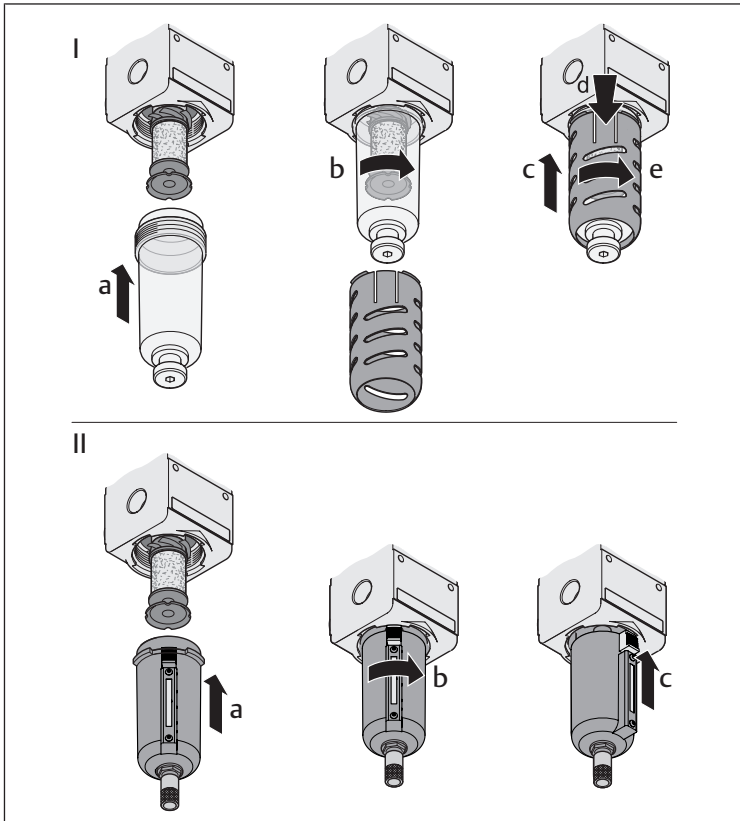
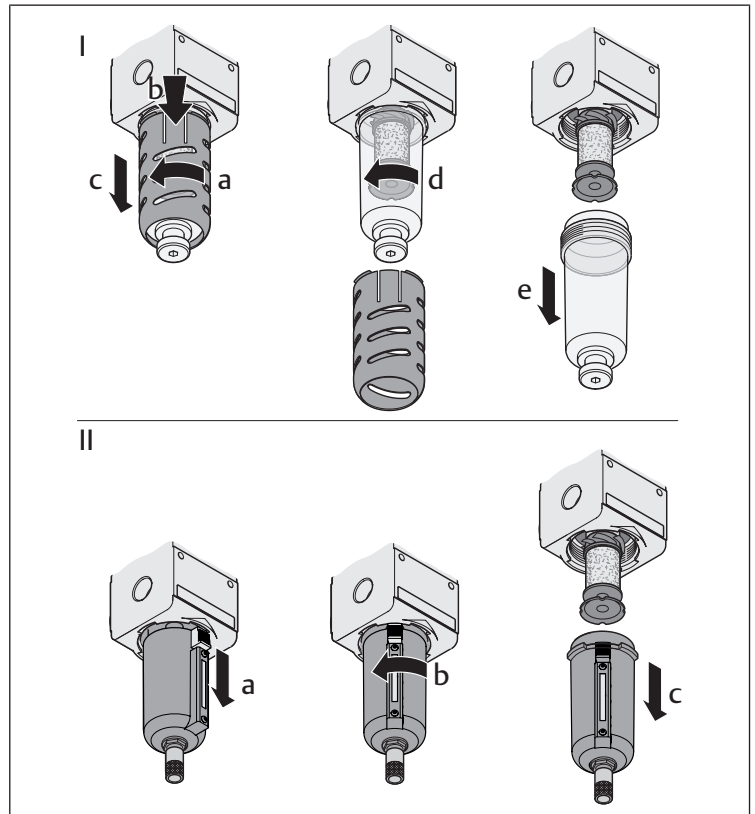

Fig. 2: Mount the reservoir and protective guard
Fig. 6: Disassemble the reservoir and protective guard
▶ Release the protective guard (→ Fig. 6 I a, – b), if present, and pull it off downwards (→ Fig. 6 I c).
▶ Unscrew the reservoir (→ Fig. 6 I d) from the housing.	Pull down the unlocking device (→ Fig. 6 II a), turn the reservoir (→ Fig. 6 II b) in an anti-clockwise direction, and then pull it down and remove (→ Fig. 6 II c).
▶ Mount the new reservoir with sensor and, if present, the protective guard in reverse order as shown in Fig. → Fig. 6 I (see order as shown in Fig. → Fig. 6 I (see also Fig. → Fig. 2)).	Mount the new reservoir with sensor in reverse order as shown in Fig. → Fig. 6 II (see also Fig. → Fig. 2)).